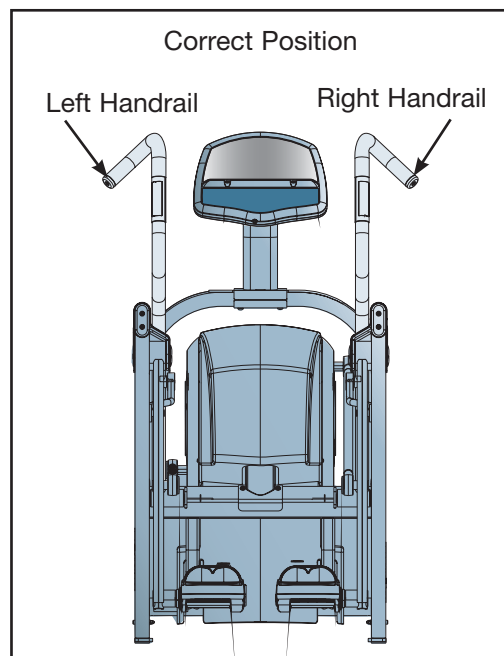

Figure 10
- F. Verify that handrails are now installed in the correct position as shown in Figure 10.